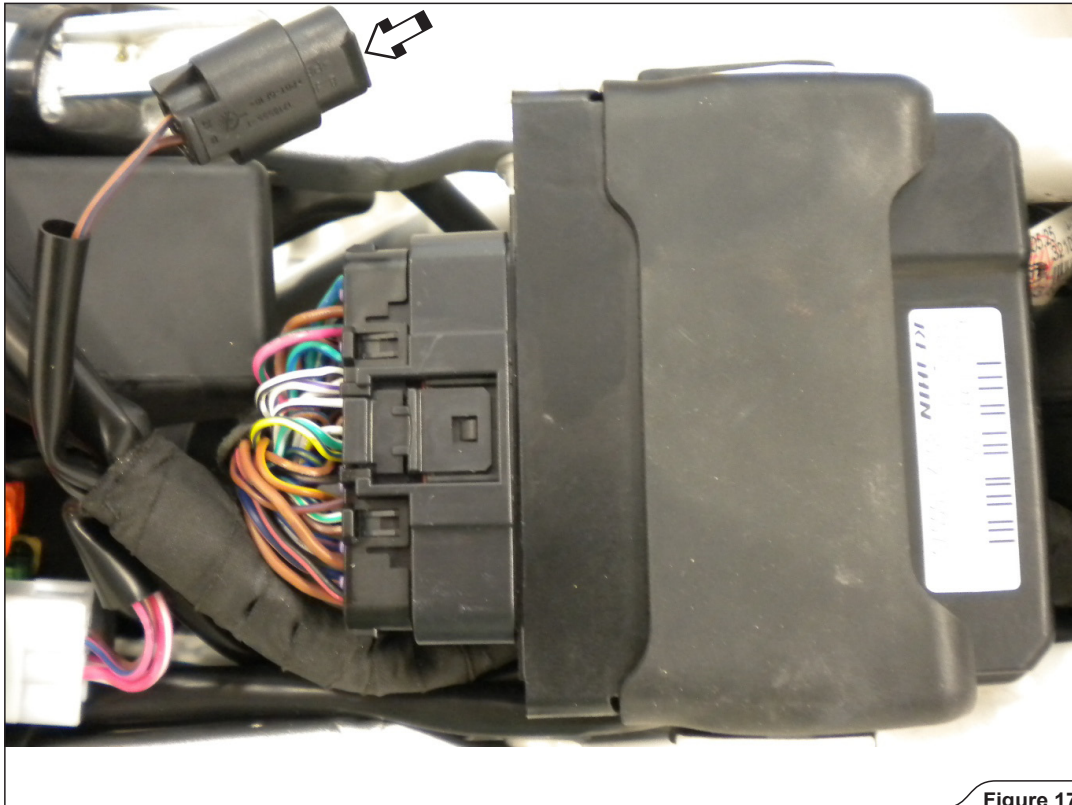

Figure 17
12. To increase the power of the motorcycle to full power, instal the plug (8000H5440 - provided in the bike kit) into the marked connector near the ECU unit (**Figure 17**).